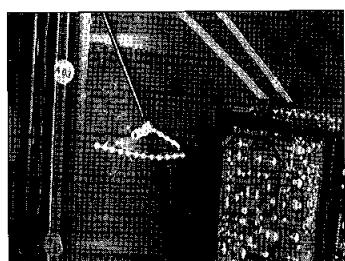

Fig.5.
1. Remove the bead clamper from the mains lead and attach to the degauss coil, shown in **Fig.5**.
6. Clip the chassis frame onto the bead clamper, on the degauss coil, as shown in **Fig.5**.